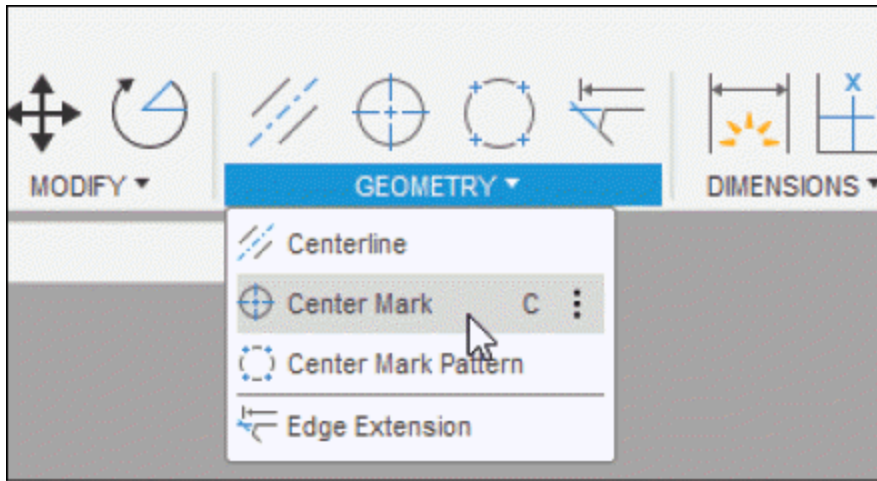

Figure-41. Center Mark tool
- Click on the **Center Mark** tool from **GEOMETRY** panel; refer to Figure-41. The tool will be activated. You need to select a round edge from any view.